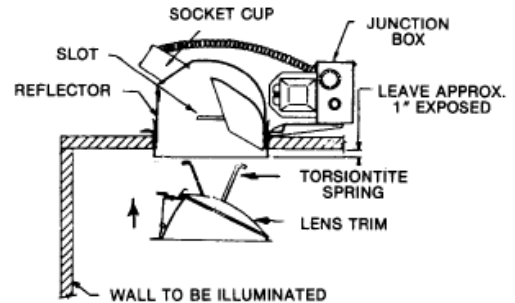

FIG. 10A
NOTE: Before installing reflector, make sure the mounting frame is installed with JUNCTION BOX away from the wall to be illuminated (Fig. 10A or 10B).
1. Tilt REFLECTOR and insert SOCKET CUP into ceiling opening on side opposite JUNCTION BOX. Push REFLECTOR up leaving approximately one inch of the REFLECTOR exposed below the CEILINGLINE (Fig. 10A).